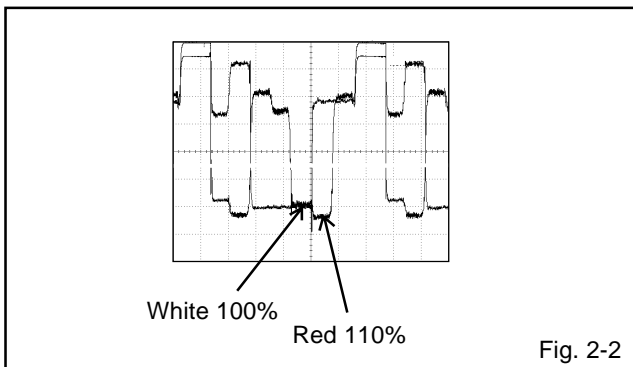

Fig. 2-2
8. Press the VOL. UP/DOWN button on the remote control until the red color level is adjusted to 110% of the white level. (**Refer to Fig. 2-2**)